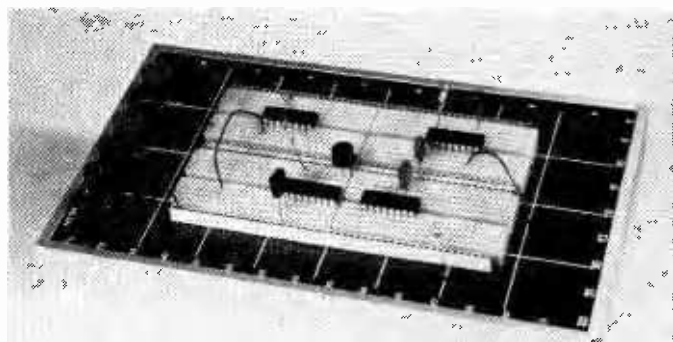

Fig 10
**The Vector Klip-Blok** breadboard system shown in Fig 10 consists of 0.1in matrix blocks organised as 12 rows each with four interconnected beryllium copper sockets. These blocks have four pins which locate in a base plate which contains a matrix of holes. Because the individual blocks can be moved, the system automatically accommodates all dual-in-line i.cs and most discrete components with lead diameters between 0.38 and 0.8mm. For larger lead diameters, special sockets are supplied. To supplement the blocks, metal socket strips are supplied, also with locating pins, which serve as power supply rails. These metal strips can be cut into shorter lengths to produce several supply rails. Both sides of the matrix base board are printed with a labelled grid to help with component placement. A useful feature of the Klip Blok system is the ability to wire on both sides of the base board.